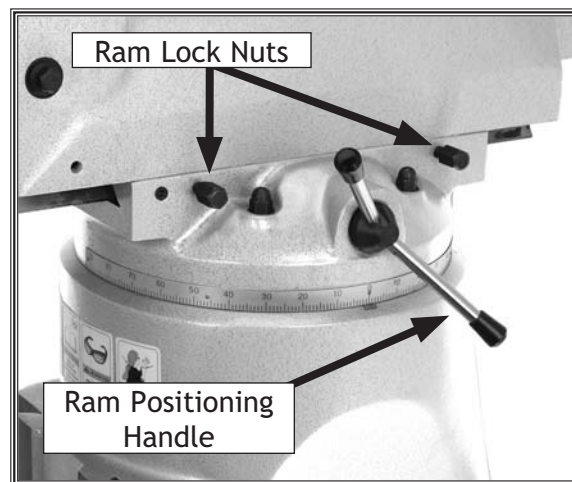

Figure 20. Location for forward/backward movement controls.
2. Use a 19mm wrench to loosen the lock nuts that secure the ram (see **Figure 20**).
3. Rotate the ram positioning handle (**Figure 20**) clockwise or counterclockwise until the spindle is in the desired position.